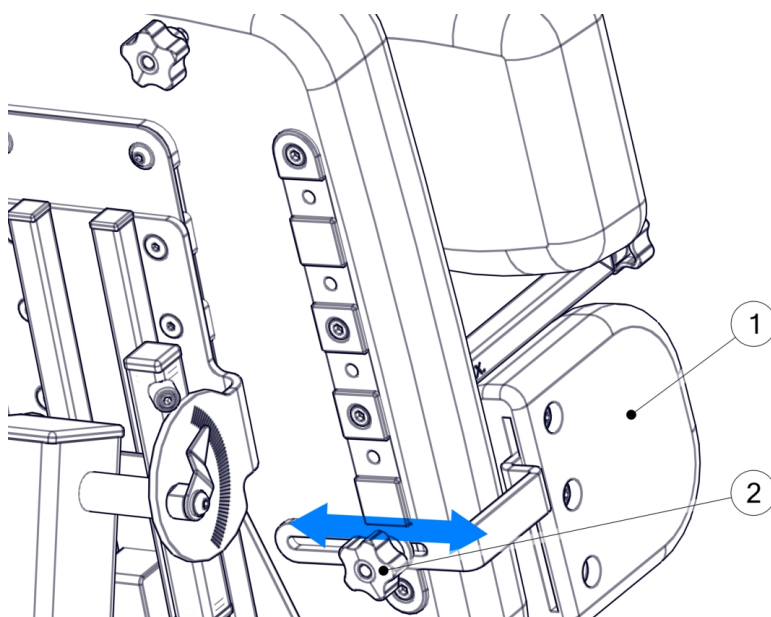

Fig. 10
Adjustment focusing on the width of the hip support (Fig. 10) is performed by loosening the knob (2) (there is no need to entirely undo the knob), and the second step comes down to setting the location of the hip support (1) and retightening the knob (2).